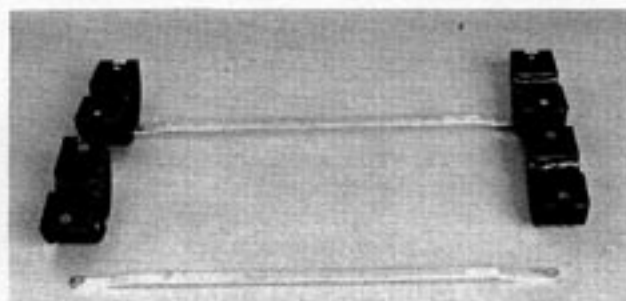

Figure 22 — Completed Preparation of End Plate Halves
9.04 Figure 22 shows the completed LOCK-TAPE Sealant application to the End Plate Halves.